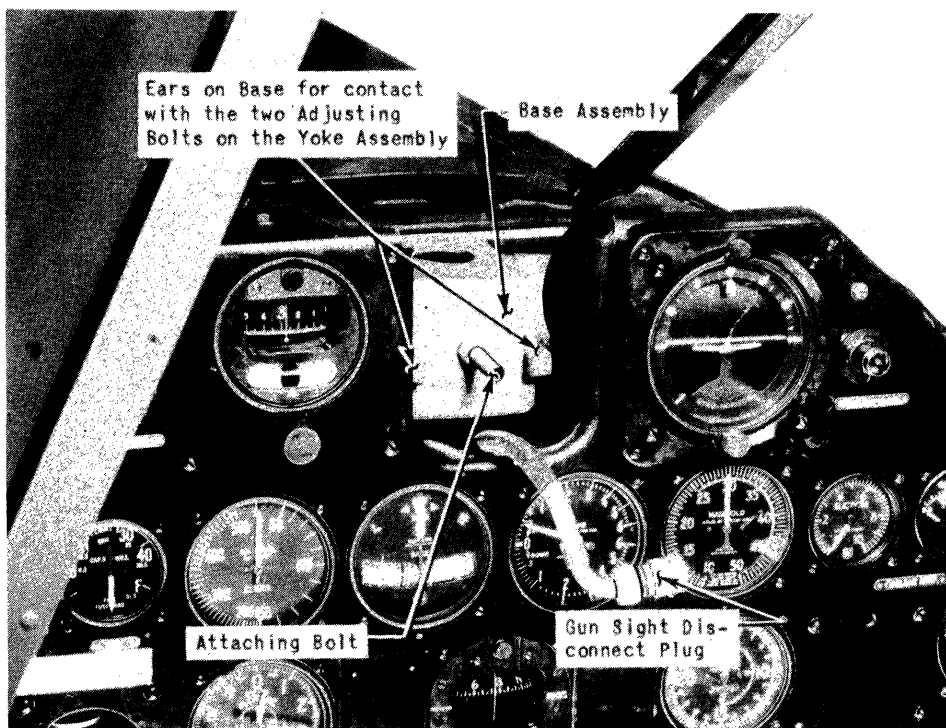

Figure 84 - Gun Sight Base Installed
a. General. - The gun sight assembly consists of a base bolted to the armor plate at station No. 2A (figure 84), a yoke, three adjusting bolts, three adjusting screws, a sun screen and reflector glass, a crash pad with a periscopic mirror attached, a second periscopic mirror attached to the top of the windshield, center panel, and the sight assembly. (See figure 86.) On all airplanes for the British Government a ring and bead sight are also a part of the sight assembly.